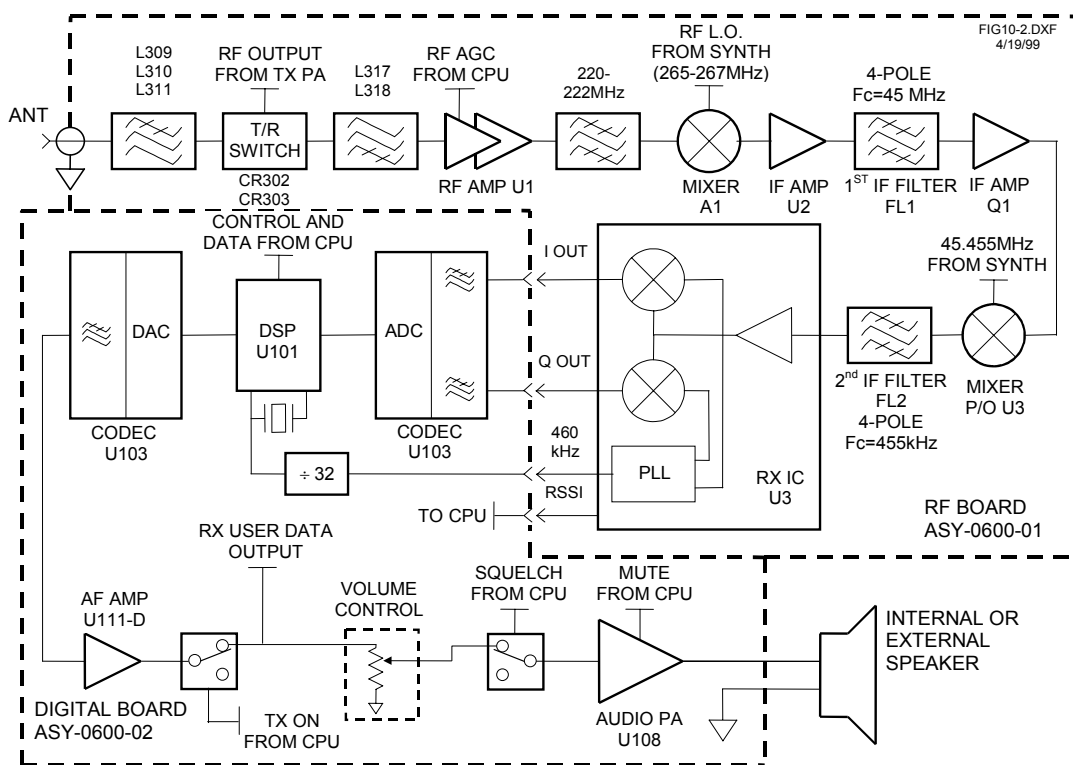

Figure 8.2 ESP604 Receiver Block Diagram
(See Figure 8.2)
9.2 RECEIVER SIGNAL PROCESSING CIRCUITS (Refer to Figures 8.2 and 11.1)
Note from Figure 8.2 that the receiver circuits are distributed over two circuit boards. The received RF signal is input from the antenna port and processed on the ASY-0600-01 Mainboard. The first and second IF signal processing is performed on the mainboard, as is the demodulation. All digital audio (DSP) and digital control (Master CPU) processing takes place on the ASY-0600-02 Digital board. Audio power amplification takes place on the Digital board.